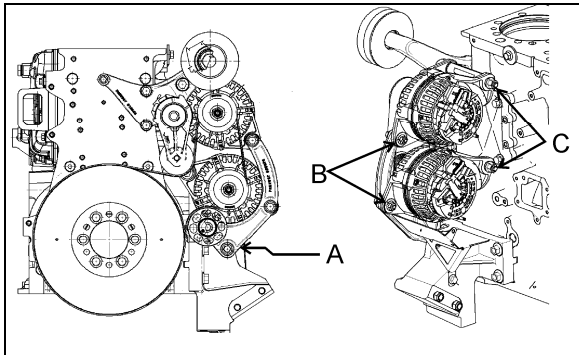

FIGURE 24: ALTERNATOR MOUNTING - TIGHTENING SEQUENCE
6. In order to assure installation, it is important to tighten the alternator mounting bolts in the following order (figure 24).
8. In order to assure proper installation, it is important to tighten the alternator mounting bolts in the following order (figure 24).